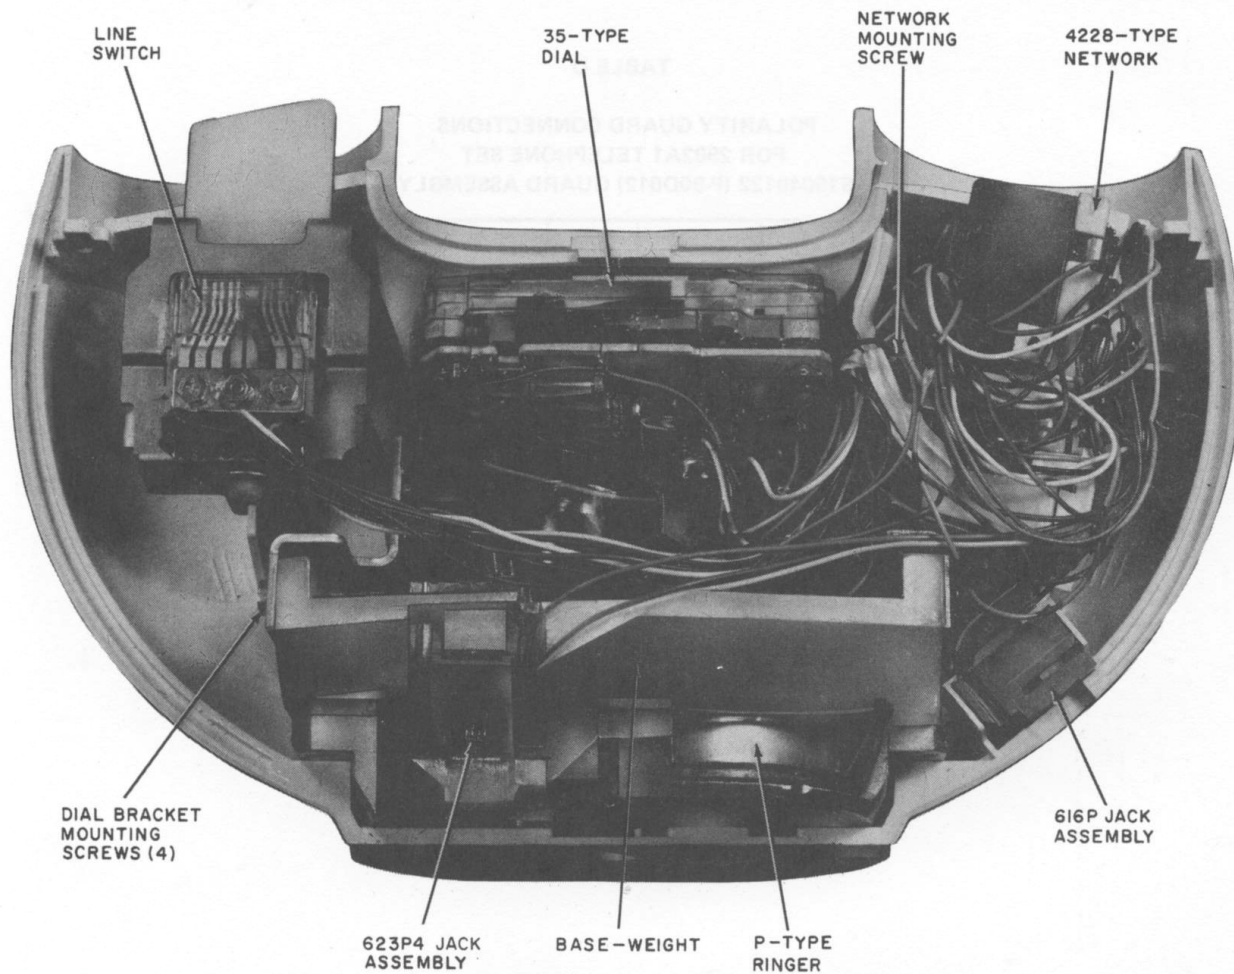

Fig. 2—2902A1 Telephone Set With Two-Piece Housing Separated
**Note:** Remove telephone company-owned components that can be easily removed. Refer to Fig. 2.
(1) Unplug cords from set.
(2) Unscrew receiver cap and remove LB1 receiver unit.
(3) Unscrew transmitter cap and remove transmitter unit.
(4) Unscrew two (2) screws from top and six (6) screws from bottom of base housing and separate the two-piece base housing.
(5) Remove line switch.